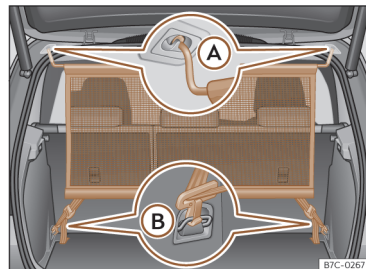

Fig. 117 Net partition fitted.
- Secure the net partition in the left housing of the roof»» Fig. 117 (A). Make sure to move the cross rod down beyond the upper position.
- Hook in the net partition on the rear right-hand side roof housing by pressing on the rod»» Fig. 117 (A).
- Secure two hooks of the partition net to the fastening rings of the boot»» Fig. 117 (B) and tighten the straps firmly.